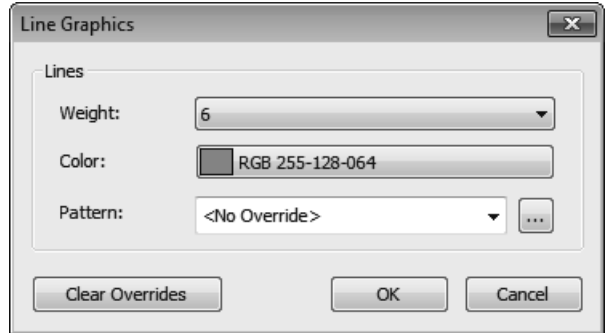

Figure 1–69
7. In the Line Graphics dialog box, change *Weight* to **6** and the *Color* to an orange, as shown in Figure 1–69. Click **OK**.